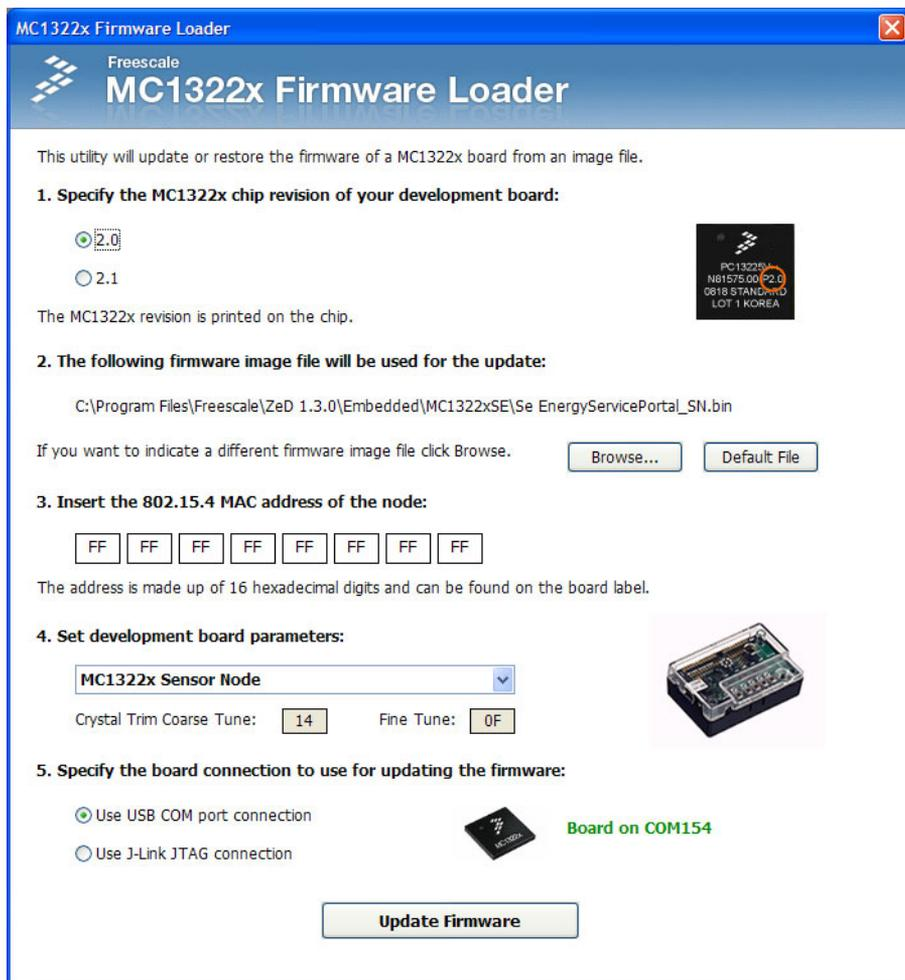

Figure 3. Firmware Loader Configuration for ESP Image Loading
- Set the board connection to “Use USB COM port” connection. Make sure the board COM port is displayed on the right side of the connection controls. Configuration must look as in Figure 3.
9. Press the Reset switch on the board when indicated by the status message as shown in Figure 3. The message also contains the flash erase procedure details if that has not been yet performed.